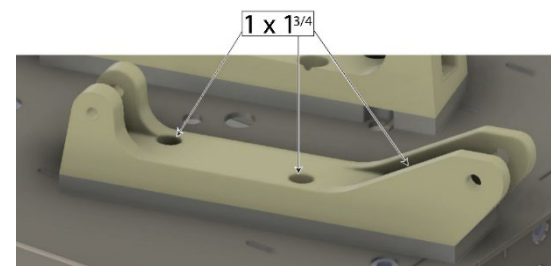

Figure 10: Three images of the rocker base spacer plate
- Using the 1/2 x 1 SCHS, as indicated in figure 10, attach the rear plate to the IRS housing.